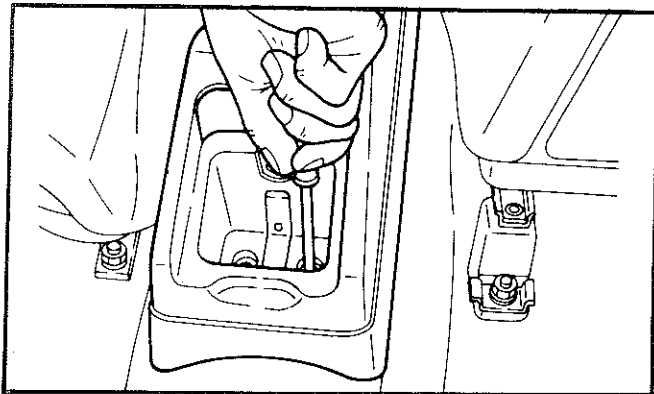

Fig. 17—Removing accessory box retaining screws
- (1) Remove the console rear ash tray, then remove the two screws securing the console rear section to the floor, Refer Fig. 17.
- (2) Remove the rear sections and disconnect the wiring.
- (3) Remove the gear lever knob, the radio knobs and retaining nuts, the heater control lever knobs and fan switch knob.
- (4) Remove the heater control panel by pulling the fan switch shaft, the panel is retained by a spring clip on the right hand side and a locating lug on the left hand side, disconnect the wiring.